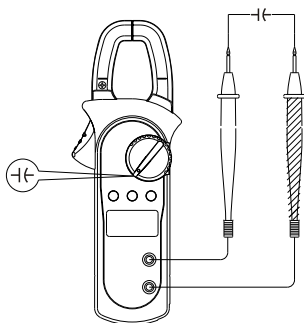

Figure 8
6. Capacitance measurement (←) (shown in Figure 8)